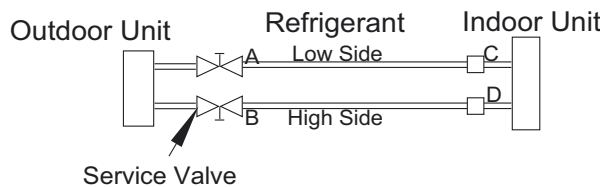

Fig. 12 – Service Valve
1. Completely tighten the flare nuts (A, B, C, D, E). Fully open all circuits service valves. Connect the manifold gage charge hose to the charge port of the low side Master service valve to evacuate all circuits at the same time (see Fig. 12).